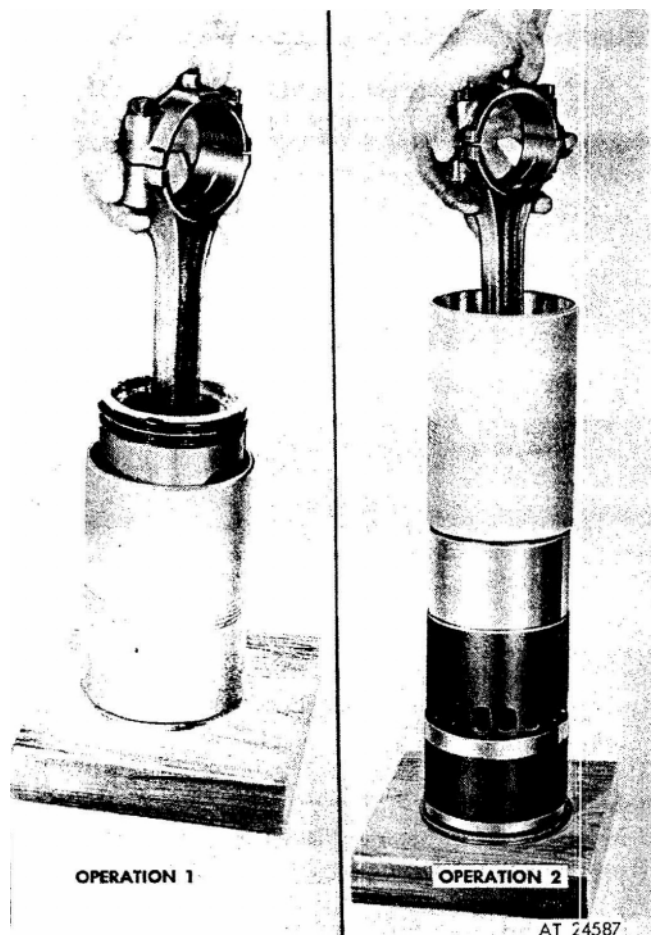

Figure 6. Installing piston and connecting rod assembly in ring compressor and cylinder liner.
4. Start the top of the piston straight into the ring compressor ; then, push the piston down until it contacts the wood block (see operation 1, fig. 6).
6. Place the ring compressor and the piston and rod assembly on the liner, so the numbers on the rod and cap are aligned with the matchmark on the liner (see operation 2, fig. 6).